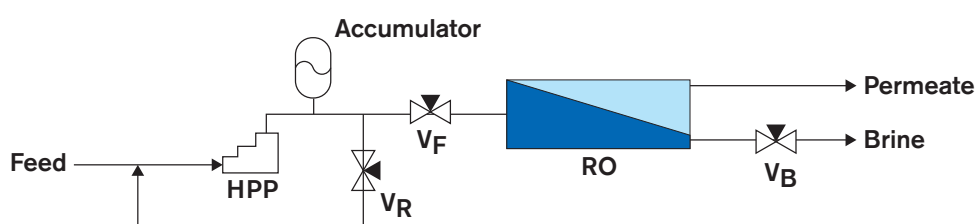

Figure TMM-220-1:
- 1) Plunger (displacement) pump system with a constant speed motor (**Figure TMM-220-1**)
Note: Figures TMM-220-1 to 220-4 are for the general explanation of high-pressure pump start-up procedures only. Some of the necessary equipment and instruments are not shown.